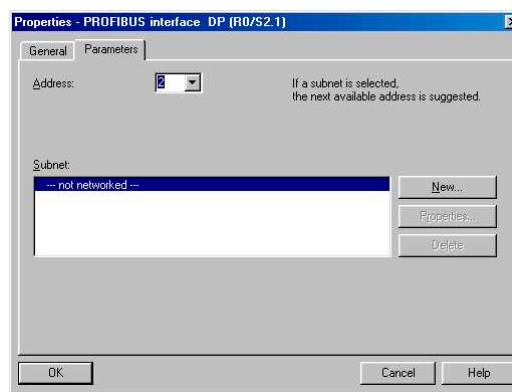

Figure 6-8 Select PROFIBUS Address Screen
13. Once the CPU is selected the user will be prompted to select the type of PROFIBUS (see Figure 6-8).